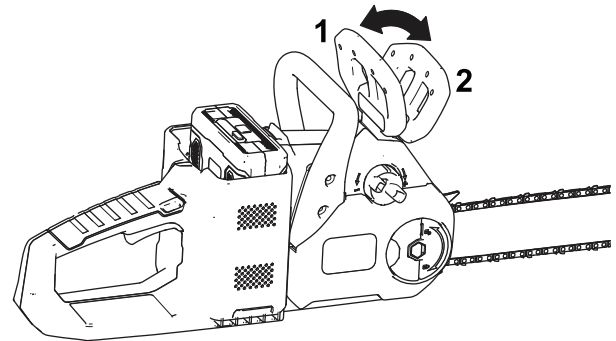

Figure 28
2. Engage the chain brake by moving the chain brake forward to the STOP position (Figure 28).
4. Disengage the chain brake by moving the chain brake rearward to the OPERATING position (Figure 28).
2. Unfold the wing-nut tab and loosen, but do not remove the wing nut on the cover (Figure 28).